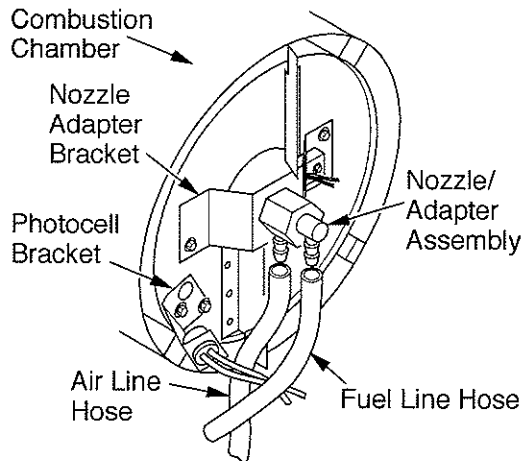
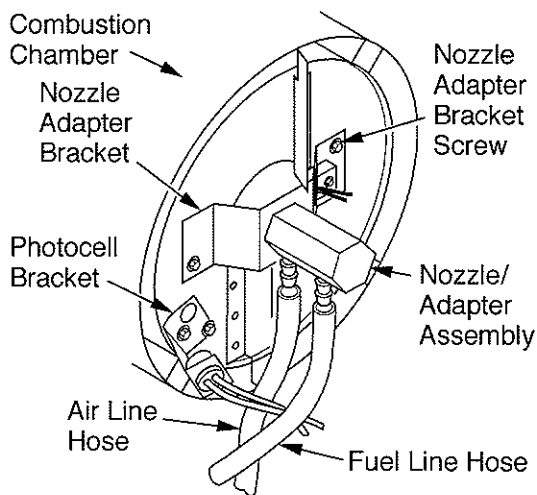
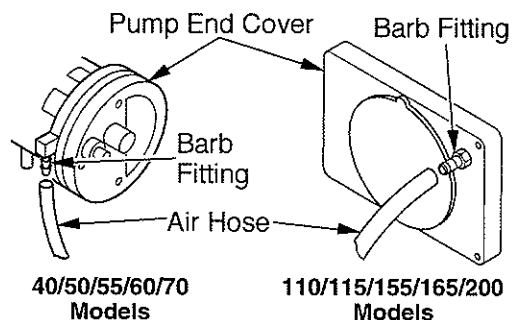

Figure 23 - Removing Air and Fuel Line Hoses (40/50/55/60/70 Models Only)
Figure 27 - Removing Air and Fuel Line Hoses (200 Model Only)
Figure 29 - Air Hose to Barb Fitting
9. Carefully guide ignitor into opening in nozzle adapter bracket. Do not strike ignitor element. Attach ignitor to nozzle adapter bracket with screw using a 1/4" nut driver for models using ignitor HA1000 or 5/16" nut driver for models using 102548-08 ignitor (see Figure 23). Torque .90 to 1.69 N-m (8 to 15 in-lbs) Do not over torque.
14. Replace photocell in photocell bracket. Route wires as shown in either (see Figures 23, 24 or 27, page 12).
3. Remove fuel and air line hoses from nozzle assembly (see Figure 23 or 24).
3. Remove two nozzle adapter bracket screws (see Figure 27).
4. Inspect fuel and air line hoses for cracks and/or holes. If fuel line hose is damaged, disconnect from nozzle adapter (see Figure 23 or 24, page 12, or Figure 27) and from fuel filter (see *Fuel Filter*, page 10). If air line hose is damaged, disconnect from nozzle adapter (see Figure 23 or 24, page 12, or Figure 27) and from barb fitting on pump end cover (see Figure 29).
5. Install new air and/or fuel line. Attach one end of air line hose to barb fitting on pump end cover (see Figure 29) and the other end to nozzle adapter (see Figure 23 or 24, page 12, or Figure 27). Attach one end of fuel line hose to fuel filter (see *Fuel Filter*, page 10) and the other end to nozzle adapter (see Figure 23 or 24, page 12, or Figure 27).
Note: Route hoses as shown in see Figure 23 or 24, page 12, or Figure 27, according to model. Hoses are not to touch photocell bracket.